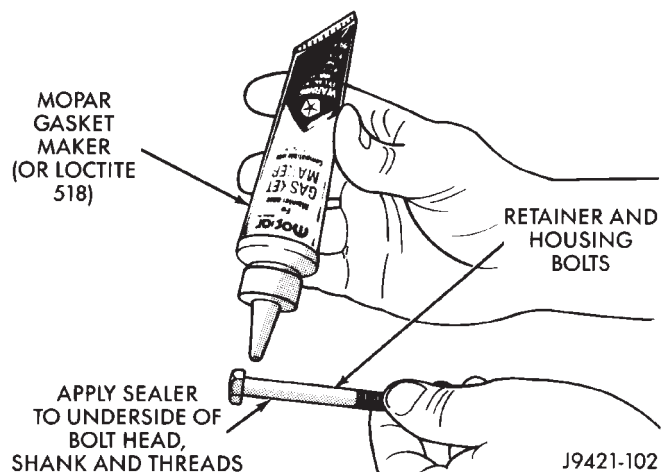

Fig. 98 Applying Sealer To Retainer And Housing Bolts
(a) Apply Mopar® Gasket Maker, or equivalent, to bolt threads, bolt shanks and under bolt heads (Fig. 98).
(1) Remove geartrain and housing assembly from fixture with aid of helper.
(2) Apply Mopar® Gasket Maker, or equivalent, sealer to underside of idler shaft bolt heads, bolt shanks and bolt threads (Fig. 98).
(3) Align idler shaft and rear housing bolt holes with drift, pin punch, or Phillips screwdriver.
(4) Work segment upward into housing and onto idler shaft.